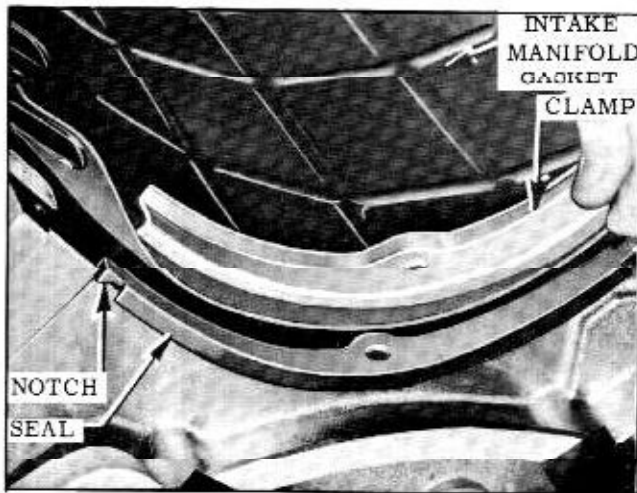

Fig. 8-3 Intake Gasket End Seals
2. Install end seals and clamps. (Fig. 8-3) Lubricate bolts with engine oil and, torque bolts 10-15 ft. lbs.